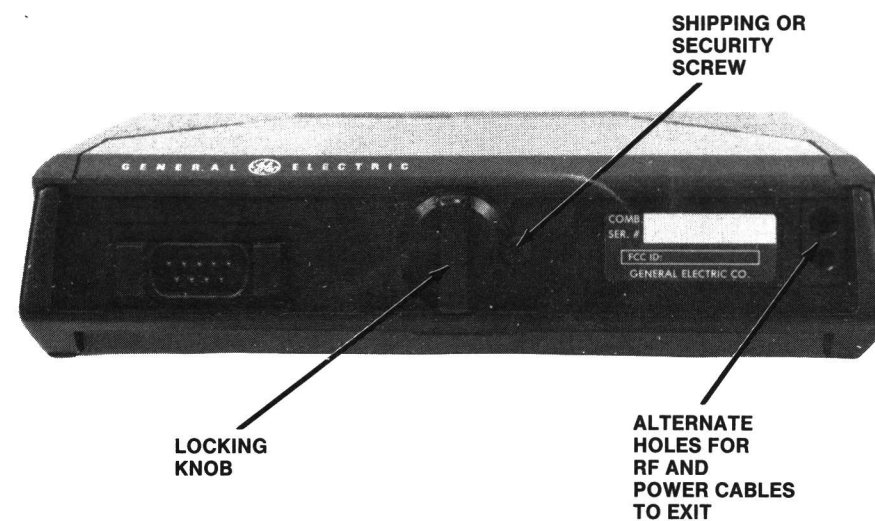

Figure 4 - Removal of Radio from Mounting Plate
## To Remove Radio From Mounting Plate: (Refer to Figure 4)
1. Apply power using the test set up shown in Figure 4.